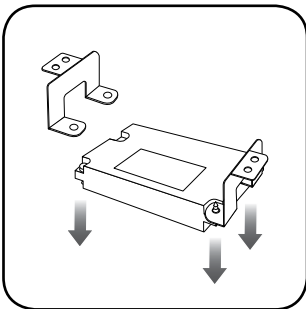

Fig. 8.0
9. Unscrew the sync module from the factory brackets. (Fig. 8.0)